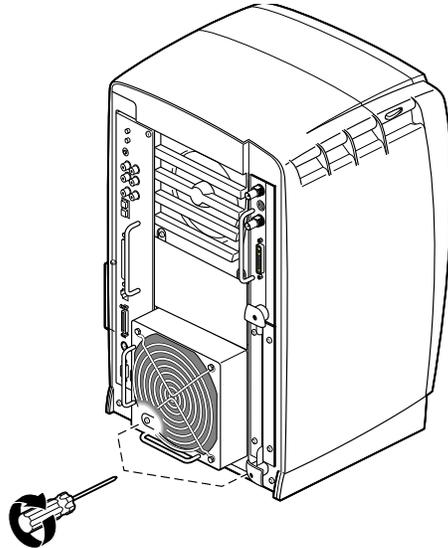

Figure 3-7 Inserting and Tightening the Screws
3. Tighten the screws that attach the power supply to the workstation, as shown in Figure 3-7.